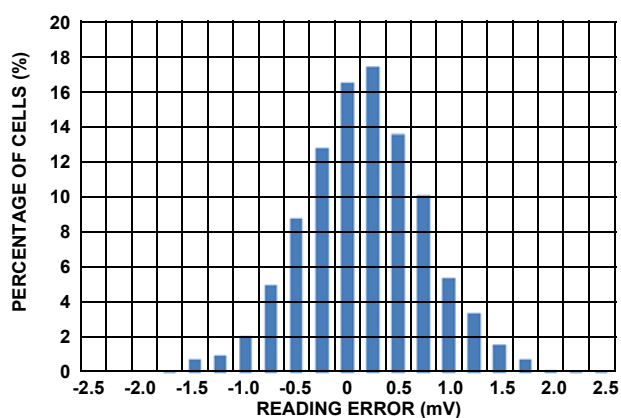

FIGURE 6B. CELL READING ERROR FROM EVALUATION BOARDS AT CELL VOLTAGE FROM 2.6V TO 4.0V, AND -20°C TO +60°C HISTOGRAM
10. Stresses may be induced in the ISL78600 during soldering or other high temperature events that affect measurement accuracy. Initial accuracy does not include effects due to this. See Figure 6B on page 18 for cell reading accuracy obtained after soldering to Intersil evaluation boards. When soldering the ISL78600 to a customized circuit board with a layout or construction significantly differing from the Intersil evaluation board, design verification tests should be applied to determine drift due to soldering and over lifetime.